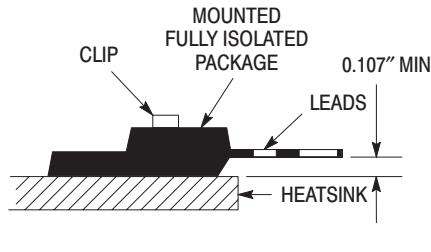

Figure 4. Clip Mounting Position for Isolation Test Number 2
- UL Recognized mounting method is per Figure 4.